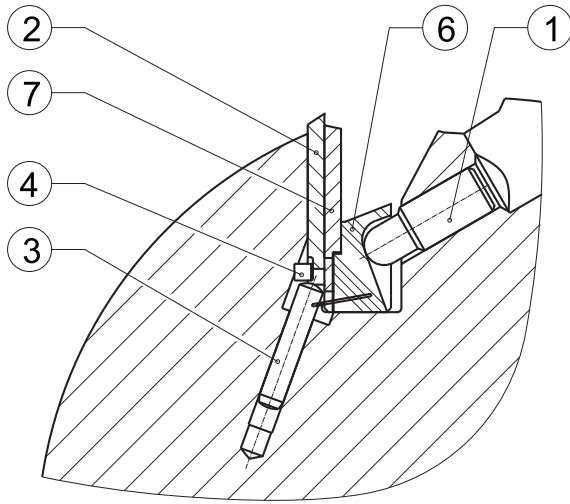

Fig. 2
2. Loosen the set screws (1) with the torx wrench only so far (max. 2 turns) until the profile knife (2) can be removed completely from the knife seat.
4. In use of profiled chip breaker (7) **make sure of using of the corresponding profile knife** (see fig. 2). The corresponding chip breaker is marked with the article number of the profile knife and the suffix "DRB".
(See Fig. 2, 4 and 8)